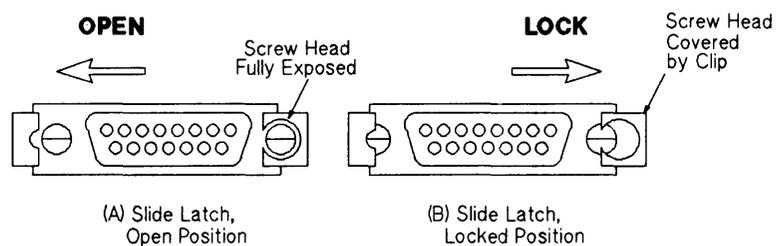

Figure B-2. Securing Cable Hold-Down Clips
- a. Slide the hold-down clip to the “open” position (see Figure B-2(A)).
- c. Slide the hold-down clip to the “locked” position (see Figure B-2(B)). This hold-down clip prevents accidental cable disconnection during operation.